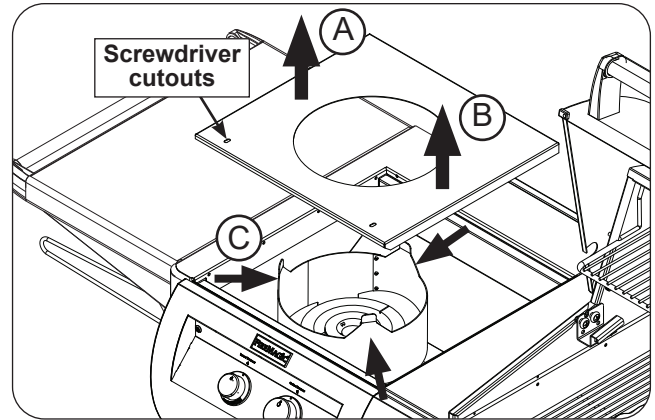

Fig. 41-1 Interior protection plate removal
2. Lift up the interior protection plate from the left side, then lift up from the right side (see Fig. 41-1, A and B).
3. While lifting the plate upward, flex the collimator inward to completely free the protection plate (see Fig. 41-1, C).